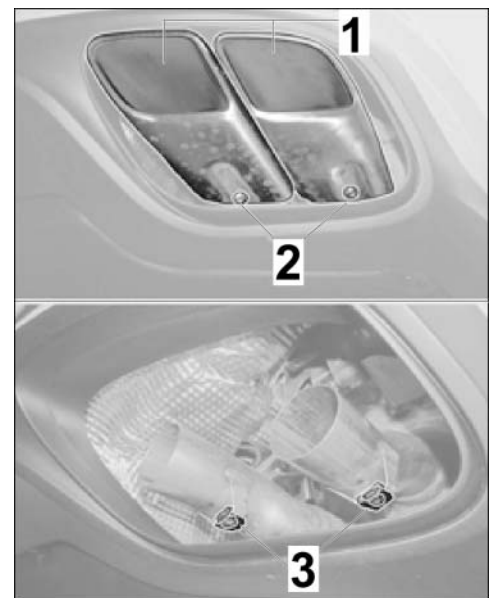

Figure 21 (Panamera Turbo)
3.2 Remove standard tailpipes ( ⇒ *Workshop Manual '263519 Removing and installing tailpipe cover'*, ⇒ *Figure 21 (Panamera Turbo)*).